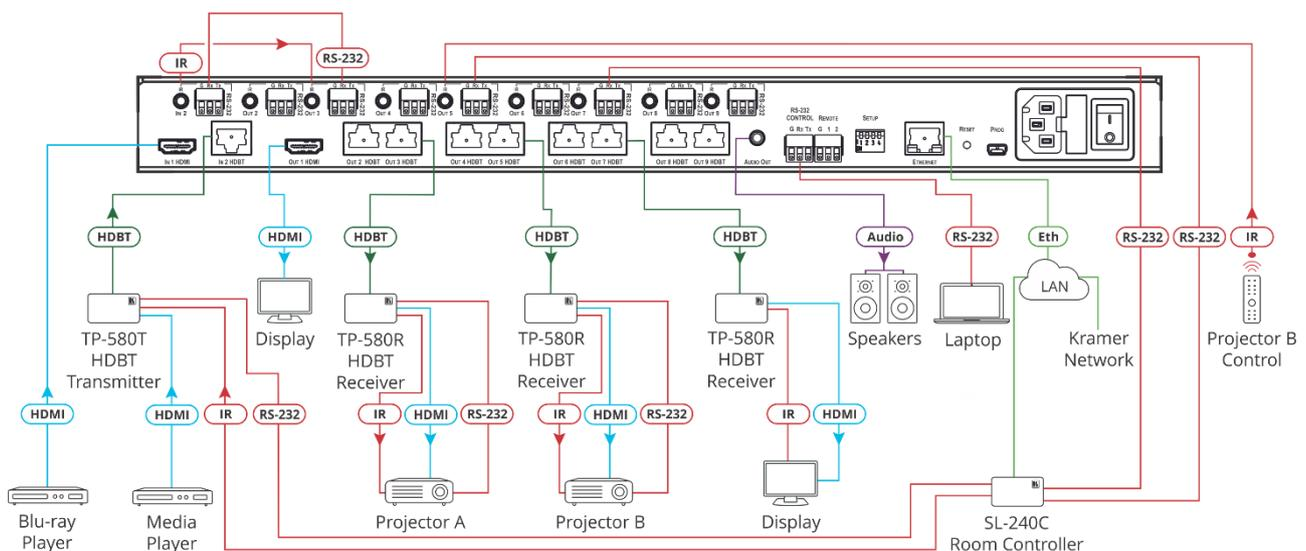

Figure 4: Connecting to VM-218DT
To connect the **VM-218DT** as illustrated in the example in Figure 4:
1. Connect an HDMI source (for example, a Blu-ray player) to the IN 1 HDMI connector (14).
2. Connect an HDBT transmitter (for example, Kramer **TP-580T**) to the IN 2 HDBT RJ-45 connector (15).
3. Connect the OUT 1 HDMI connector (18) to an HDMI acceptor (for example, a display).
4. Connect the 8 OUT HDBT RJ-45 connectors (19) (2 to 9) to up to 8 HDBT receivers (for example, Kramer **TP-580R** receivers).
5. Connect the AUDIO OUT 3.5mm mini jack (20) to an analog audio acceptor (for example, Kramer **Tavor 6-O** speakers).
6. Connect the RS-232 terminal block connector (21) to a serial control device (for example, a laptop) to control the **VM-218DT**.
7. Connect the Ethernet RJ-45 port (24) to the Ethernet LAN to control the **VM-218DT** and its peripheral devices and/or to a room controller (for example, Kramer **SL-240C**).
8. Connect the power adapter to the **VM-218DT** and to the mains electricity (27) (not shown in Figure 4).
The USB connector 26 and power cord are not shown in Figure 4.